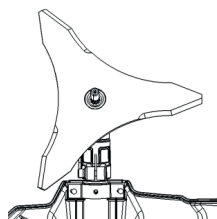

Fig. 9
2. Align the blade onto the support plate, insert the T20 TORX key inside the hole, and put the blade on the support plate, align the flange, dust cover, and screw the nut with provided socket wrench by anti-clockwise direction until it is tight enough (Fig.9&10&11).